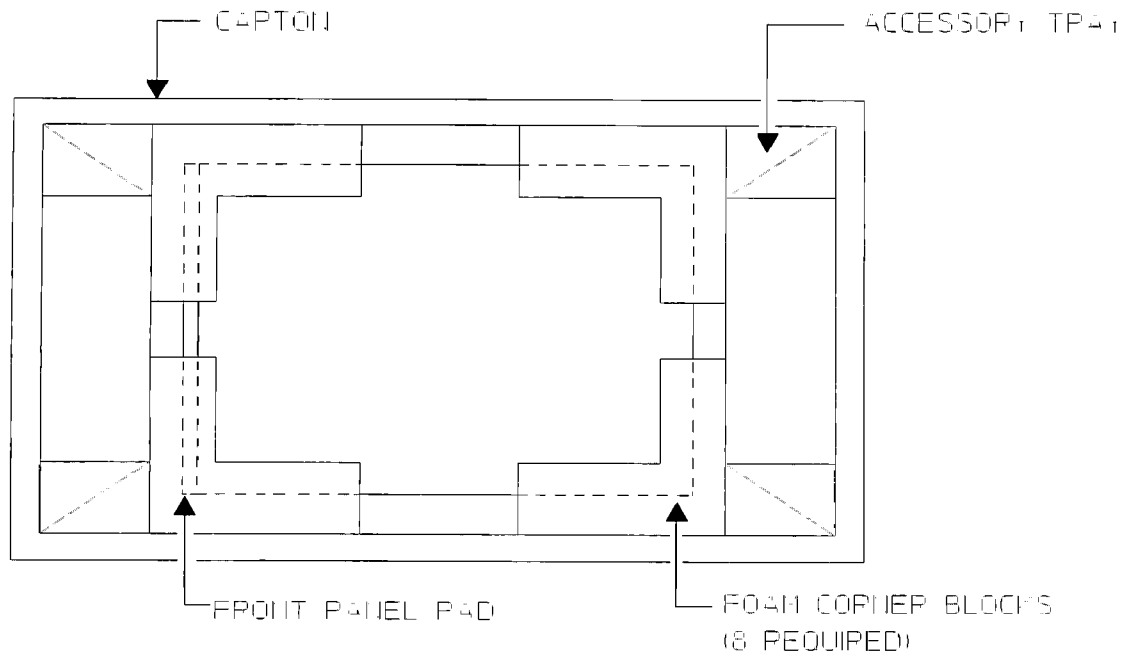

Figure 2-3. Repacking for Shipment
- Containers and materials identical to those used in factory packaging are available through Hewlett-Packard offices, see figure 2-3. If the analyzer is being returned to Hewlett-Packard for service, attach a tag describing the type of service required, the return address, model number, and full serial number. Also, mark the container FRAGILE to ensure careful handling. In any correspondence, refer to the analyzer by model number and full serial number.